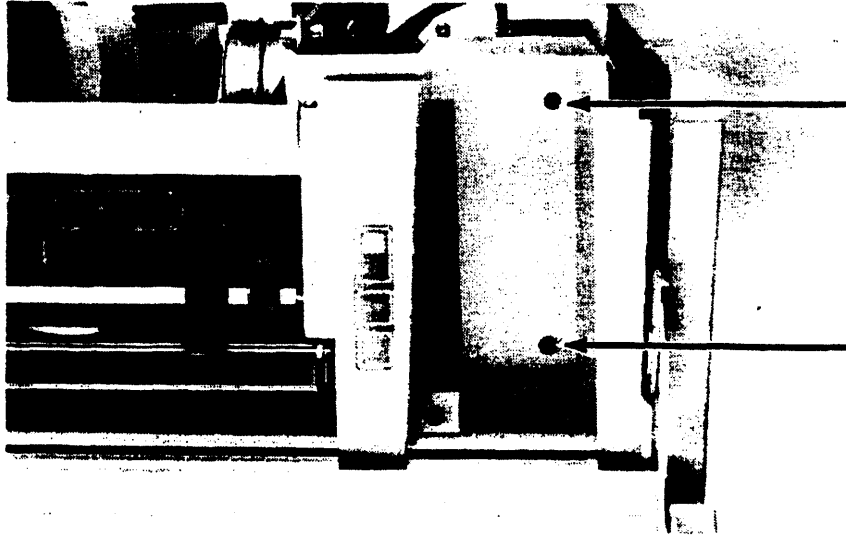

Figure 6-23a. Disc-Drive Mounting Screws—Top
3. Remove the two top screws that are located in the bottom of the cable well on top of the computer to the right of the printer. Remove the screw in the bottom rear of the bracket. See figures 6-23a and 6-23b respectively.